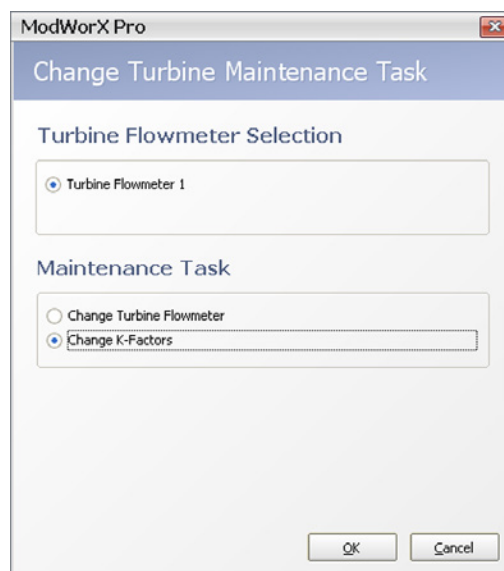

Figure 13.4
1. If Change Turbine Flowmeter is not displayed in the Maintenance Task field at the top of the Maintain Turbine screen, click on **Change Task**. The Change Turbine Maintenance Task dialog will appear (Figure 13.4).